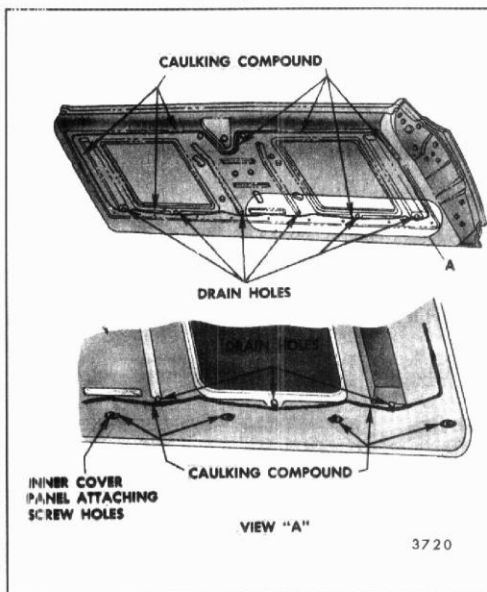

Fig. 9-2-Tail Gate Sealing
3. If needed, apply a bead of body caulking compound (approximately 3/16" diameter) to tail gate inner panel (See Fig. 9-2). The inner panel cover attaching screw holes should also be sealed with body caulking compound.